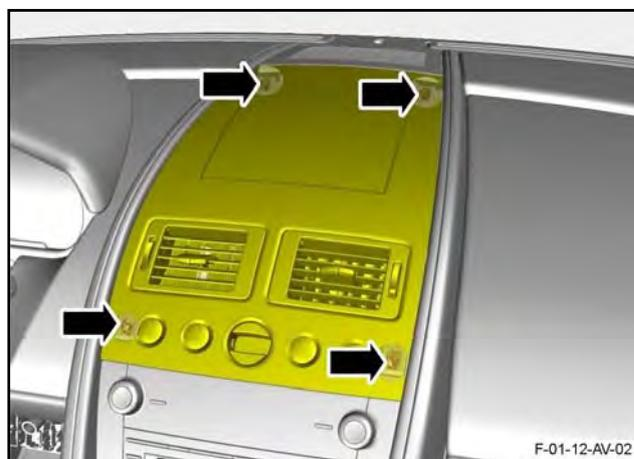

Figure 12
19. Release the veneer bezel from the four clips that attach it to the IP (refer to Figure 12).